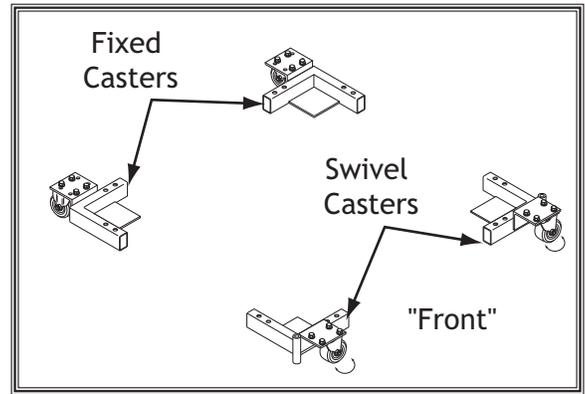

Figure 8. Corner brackets with casters laid out on floor.
3. Lay the four corner brackets on the floor in the pattern illustrated in **Figure 8**.